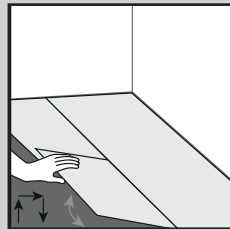
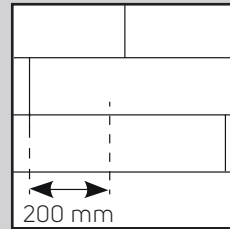
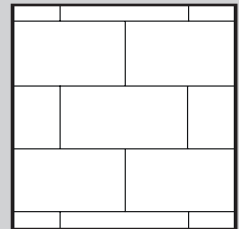

Fig. 3
Fig. 3a
Fig. 3b
4. Start the second row by clicking the tongue into the groove holding the plank at an angle (approximately 30°), then tap the plank/tile firmly into the groove of the first row. Install the next plank/tile by easing the tongue and groove together on the long side (Fig. 3). Tiles and planks should be installed 'off-set' such that four corners never meet (Fig. 3a and Fig. 3b).